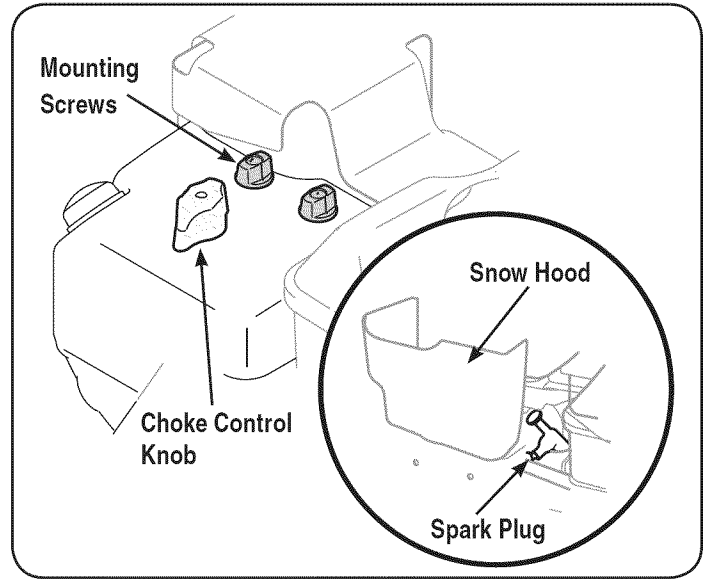

Figure 15
3. Slowly remove the snow hood, making sure that the primer bulb hose and ignition wire remain connected. See Figure 15.